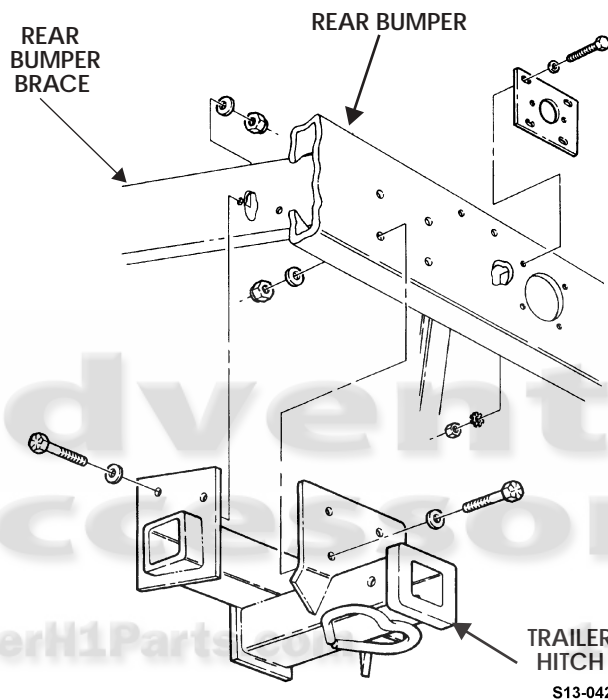

Figure 13-46: Trailer Hitch
1. Remove four locknuts, washers, capscrews, and washers securing trailer hitch to rear bumper braces. Discard locknuts (Figure 13-46).
1. Install trailer hitch on rear bumper with four washers, capscrews, washers, and locknuts (Figure 13-46). Do not tighten locknuts.